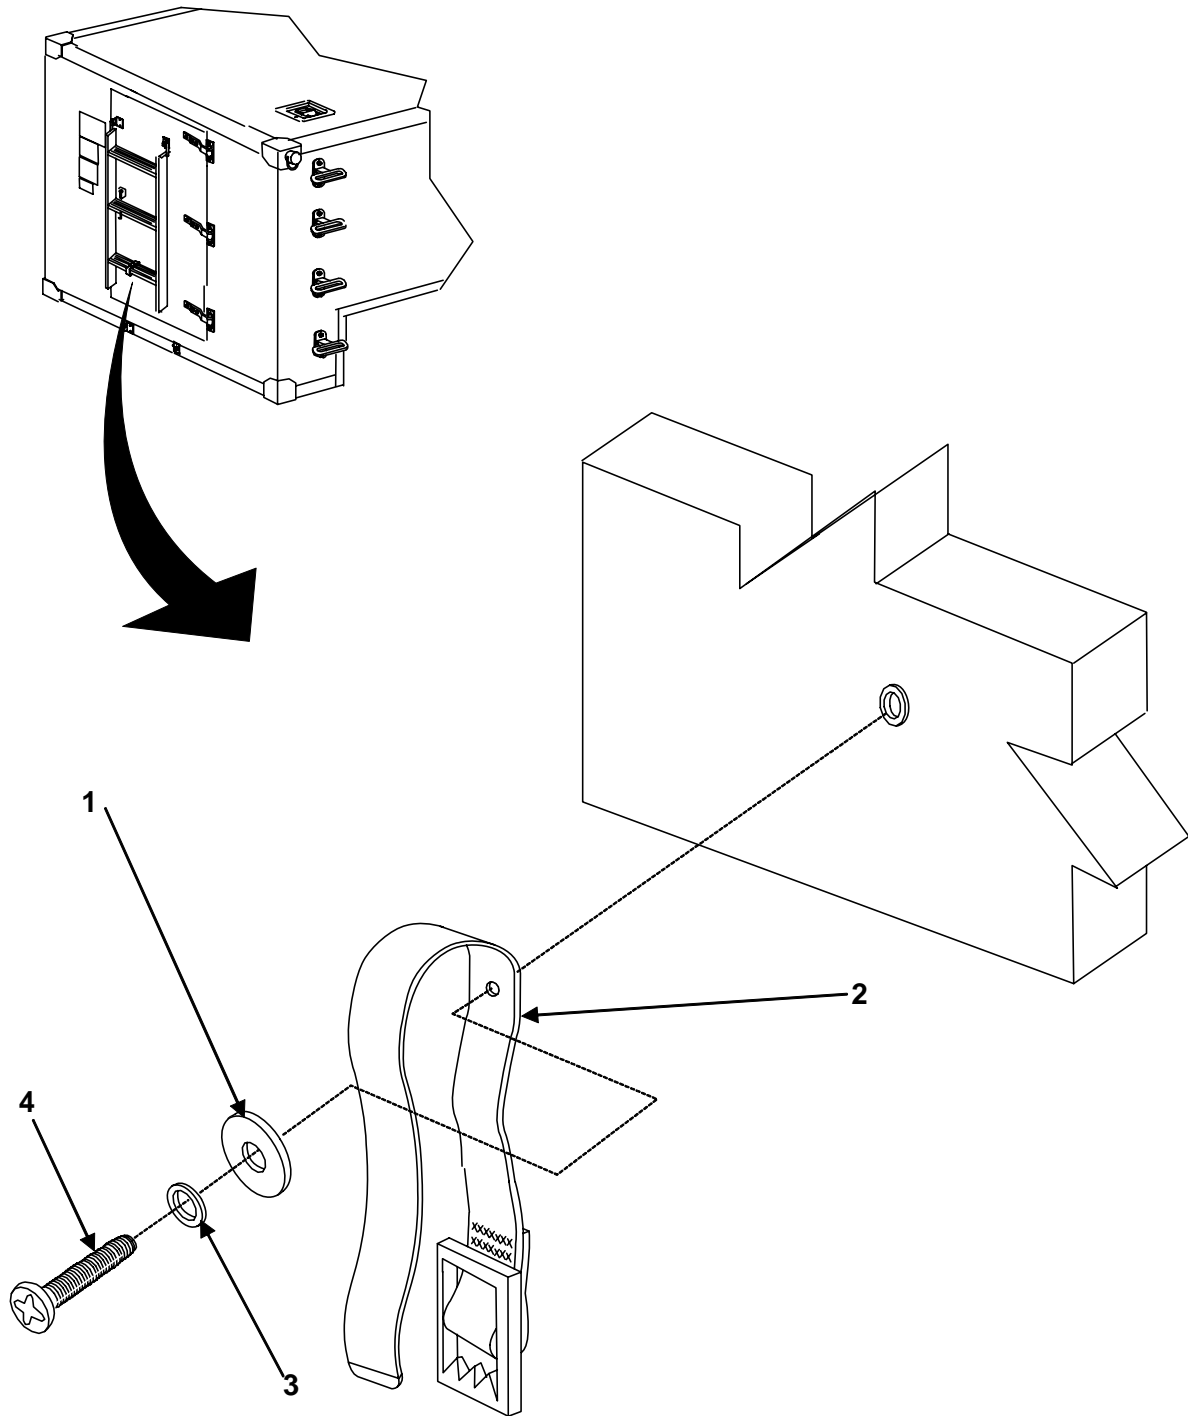

Figure 1. Ladder Strap Assembly.
1. Locate strap (figure 1, item 2) and secure the strap to the door using two washers (figure 1, items 1 & 3) and a screw (figure 1, item 4).
2. Place ladder on door and secure with strap (figure 1, item 2).